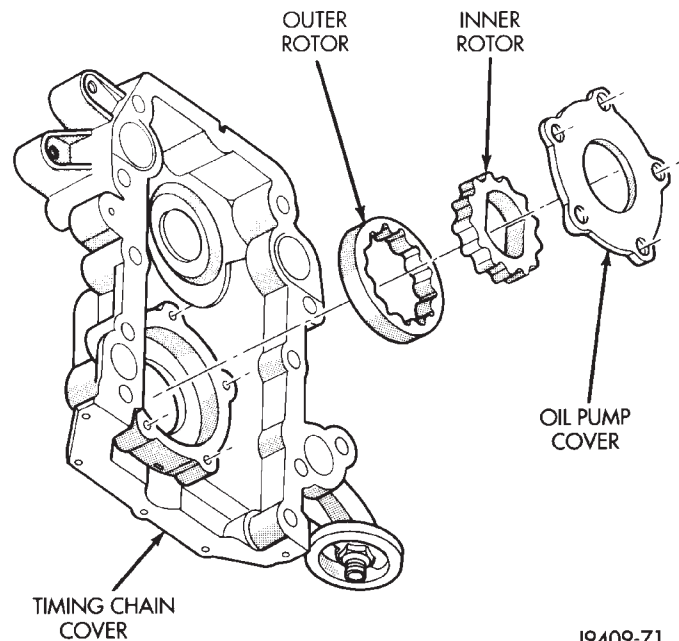

Fig. 52 Oil Pump
(3) Remove oil pump cover (Fig. 52).
(4) Remove pump rotors (Fig. 52).